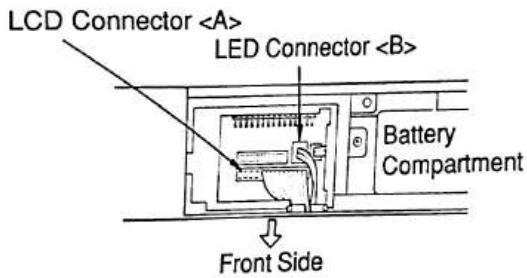

Figure 7
(10) Disconnect the LCD connector <A> and the LED connector  as shown in Figure 7.